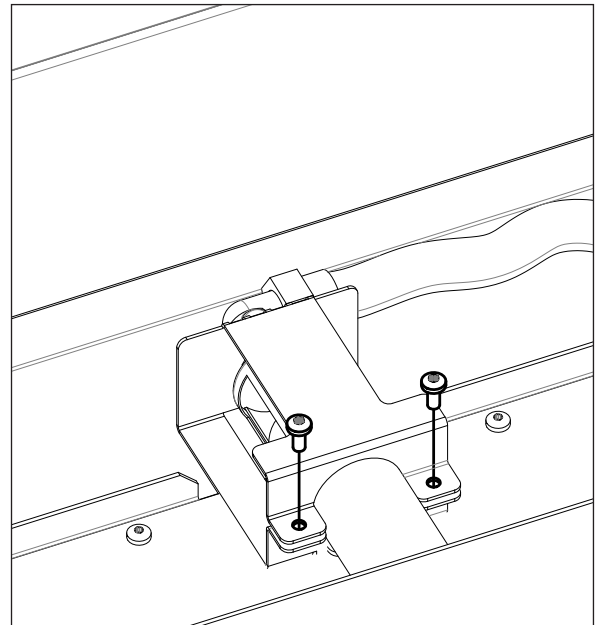

Figure 10: Orifice Mount Clamp
7. Remove the two (2) T-20 screws securing the orifice mount clamp onto the burner (see Figure 10)